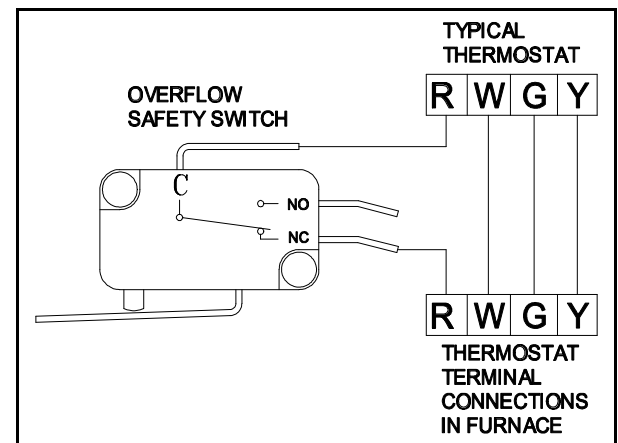

Figure 3
2. Safety Switch: If using the model 20+ULS or 20+ULST, the overflow safety switch may be wired in series with the appliance's thermostat to shut off the unit in the event that the pump fails. In the case where heating or cooling requirements are a necessity, the overflow safety switch may be wired into an alarm circuit. Refer to Figure 3 for wiring. Note: In most cases, use the normally closed (NC) contacts when used with a furnace or air conditioner and use the normally open (NO) contacts when used to trigger an alarm.